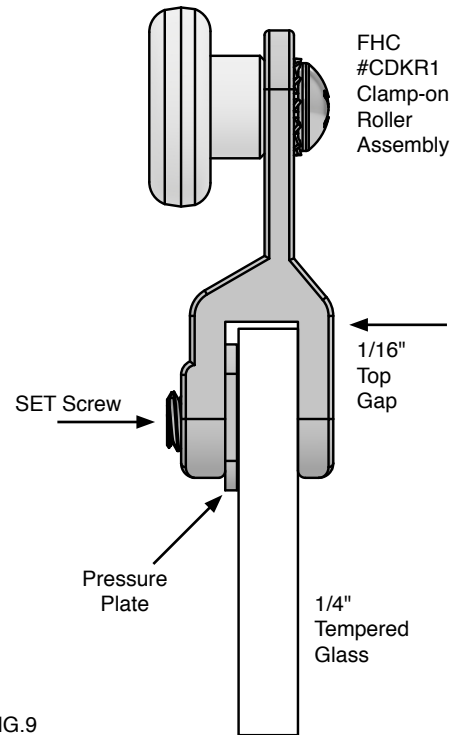

FIG.9
Step 3: Adjust the roller assembly on the glass to give a 1/16" gap at the top (**Figure 9**).